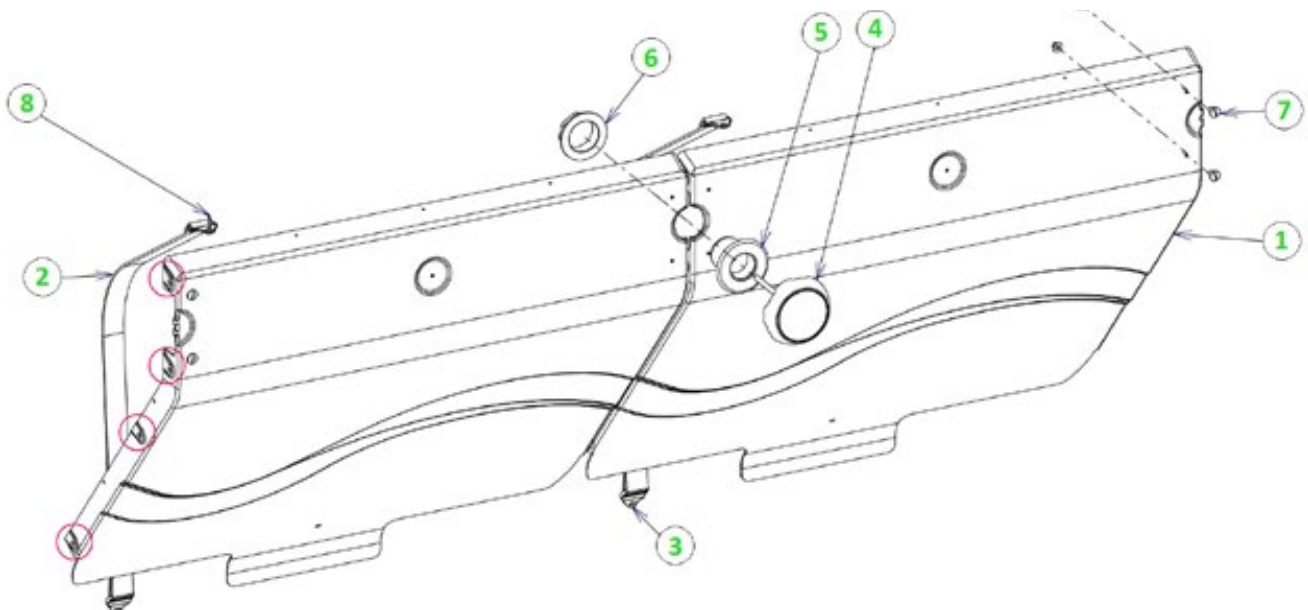

Figure 43 – Installing the pit wall and underwater light
As of the 1st of January 2004, the French pool safety standard NF P 90-308 has required that the portion of the pool in which the cover is installed must be separated from the rest of pool. Installation of the pit wall is therefore mandatory. The pit wall and underwater light assembly steps are illustrated in *Figure 43*. The screws required for assembly are enclosed in bag Y.
Assemble the two pit wall modules (1) using four hex head 8 × 20 A4 SS screws, and eight 8 mm diameter nuts, place a 8 mm diameter washer on either side of the wall, that is a total of 16 washers. The locations of these screws on the wall are circled in red in *Figure 43*.